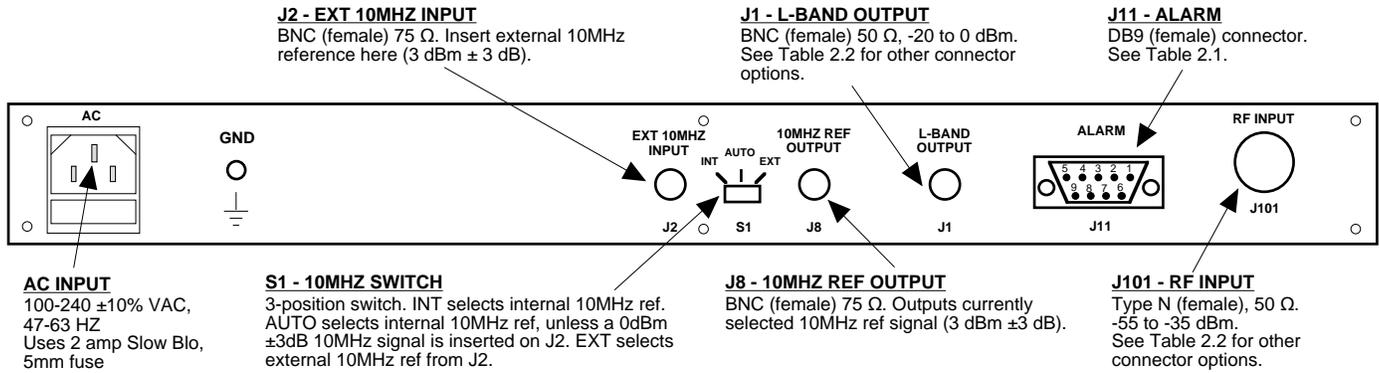

FIGURE 2.1 2116-23#-1100 Rear Panel I/O's
2.2 Rear Panel Input/Output Signals - Figure 2.1 shows the input and output connectors on the rear panel.
- 1.) Connect a -55 dBm to -35 dBm signal to RF INPUT, J101 (Figure 2.1).
- 5.) Select either INT (for internal 10MHz ref), AUTO (for internal 10MHz ref UNLESS a external 10MHz, 0 dBm signal is connected to J2), or EXT (for external 10MHz, 0 dBm ref that is inserted at J2) on rear panel switch S1 (Figure 2.1).
- 7.) Check that a 10MHz, 0 dBm \pm 3 dB signal is present at the 10MHZ REF OUTPUT (J8) (Figure 2.1).